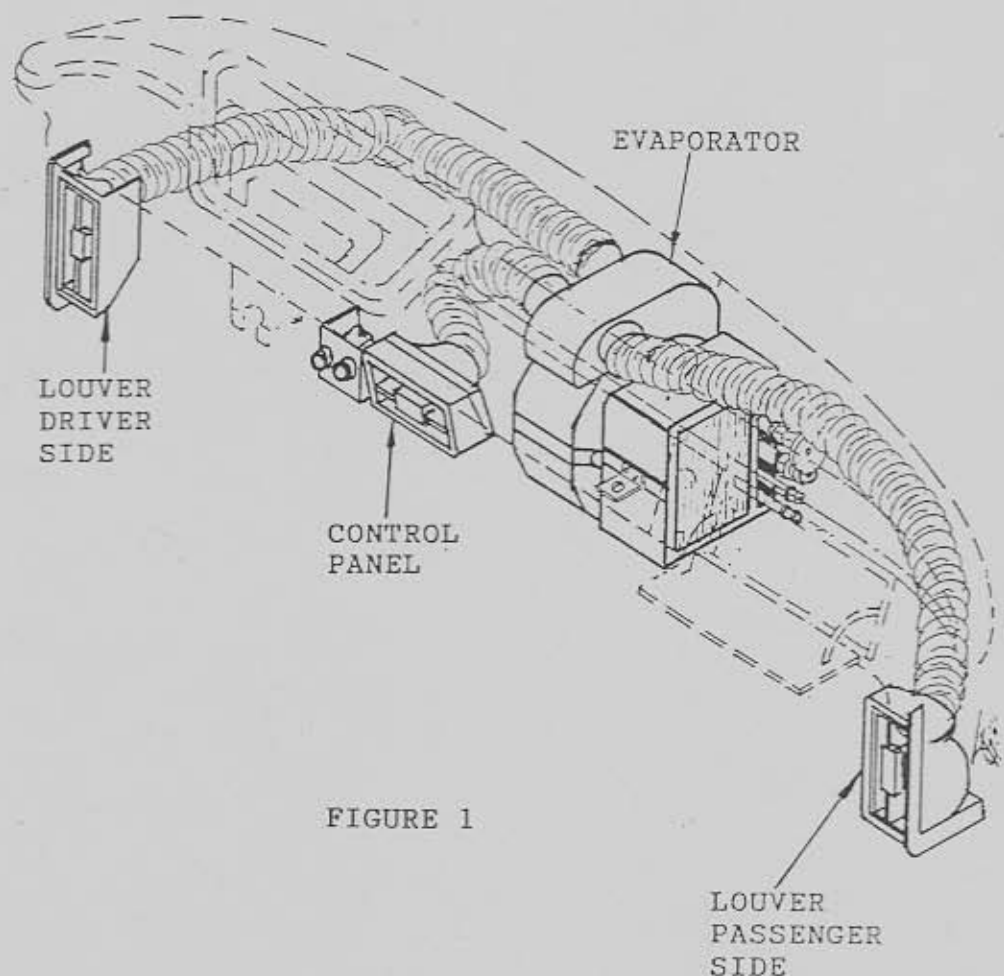

FIGURE 1
2. The evaporator should fit as figure 1 shows. Drain outlet is on bottom (down) side of evaporator. The evaporator drain must remain on the bottom of the unit. (Figure 1) If you need to relocate the drain, contact Vintage Air for instructions.